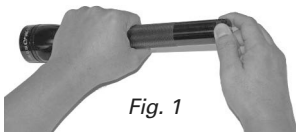

Fig. 1
Unscrew the tail cap (Fig. 1) and insert battery pack (Fig. 2) into the barrel. The positive (+) end—this is the end with a button—goes into the barrel first. Now screw on the tail cap and make sure it's tight.
1. Begin by unlocking the flashlight's skirt (A) by grasping the flashlight's barrel (B) in your right hand and its head in your left hand, extending your right thumb and index finger onto the base of the flashlight's skirt (A), as seen in Fig. 1:
2. Using your right thumb and index finger, push forward on the skirt (A) closing the gap between the skirt and the face cap (F). While maintaining forward pressure with your right hand, use your left hand to grasp the knurled ring (E) between your left thumb and index finger and begin to turn it in either direction. Once you have turned the knurled ring (E) approximately 1/16th turn, release the forward pressure on the skirt (A) and continue to turn the knurled ring (E). The knurled ring (E) will spring back, releasing the skirt (A) and allowing you to slide it down the barrel (B). This exposes the alignment ring (C).